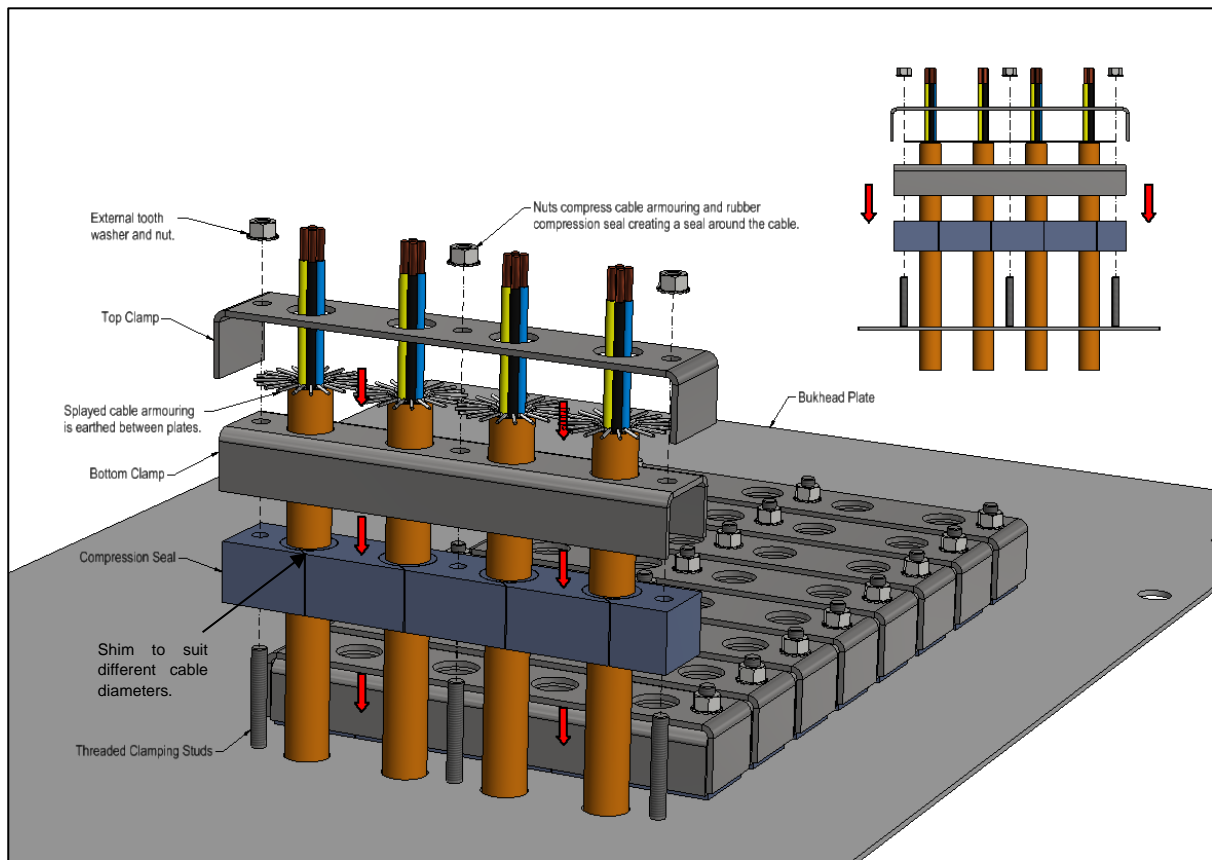

Figure 58 – Plus+ Sealed Base Kit Components and Earthing Mechanism
The components on the Sealed Base Kit are described in Figure 58.
9. The armouring must fan out to 90 degrees with a 30mm diameter to be clamped properly. See Figure 58. Strip back outer sheath of cable exposing the correct length of armouring to be bent down to achieve this.
11. Using pliers bend armouring out to 90 degrees. See Figure 58